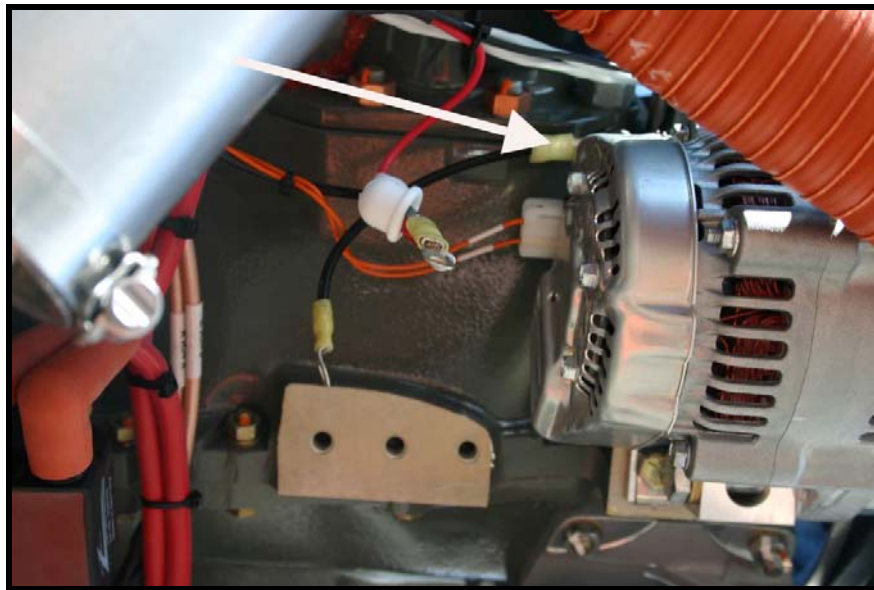

FIGURE 5
6. Connect A08B10BK and A08C10BK to positive (+) side of capacitor. See Figure 5.